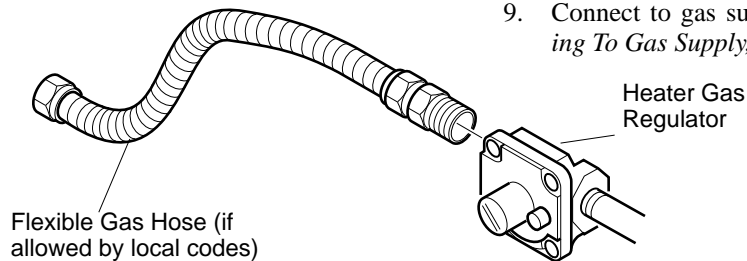

Figure 12 - Attaching Flexible Gas Hose to Heater Gas Regulator
1. Apply pipe joint sealant lightly to male threads of gas fitting (not provided). Connect approved flexible gas hose to gas regulator of heater (see Figure 12).